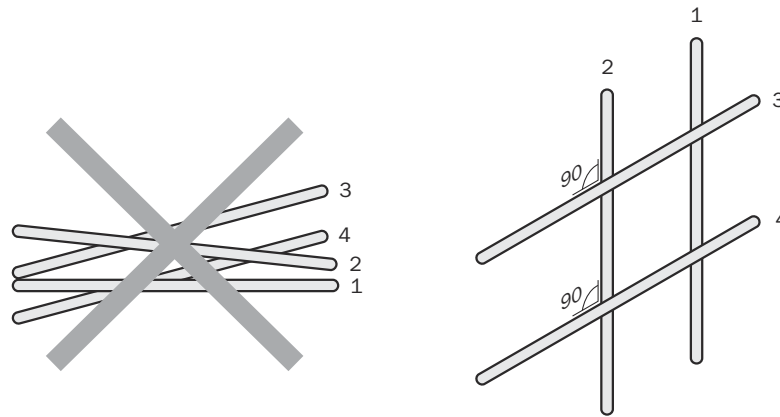

Figure 28: Cross cables at right angles
- ▶ Cables in groups 1, 2 and 3, 4 must be crossed at right angles (see figure 28).